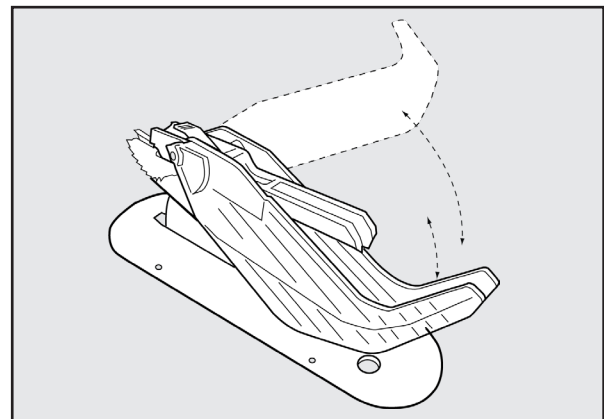

Figure 44
1. Refer to Figure 44 and, lifting the guard from the front, raise the guard shield until it snaps into a locked position above the table. One or both guard shields can be raised.